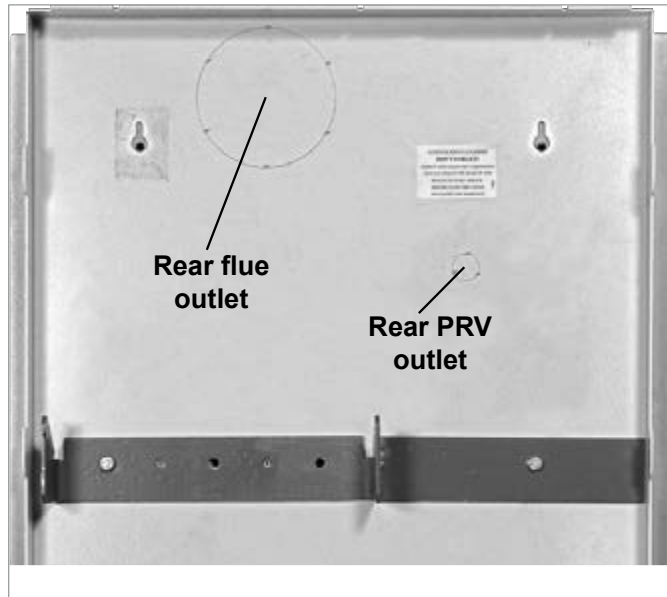

Figure 4-7: Back panel knock-outs
1. If a back outlet flue system is to be used, remove the large circular flue knock-out from back panel. If the rear outlet PRV discharge is to be used, remove the knock-out from the back panel. (See Figure 4-7).